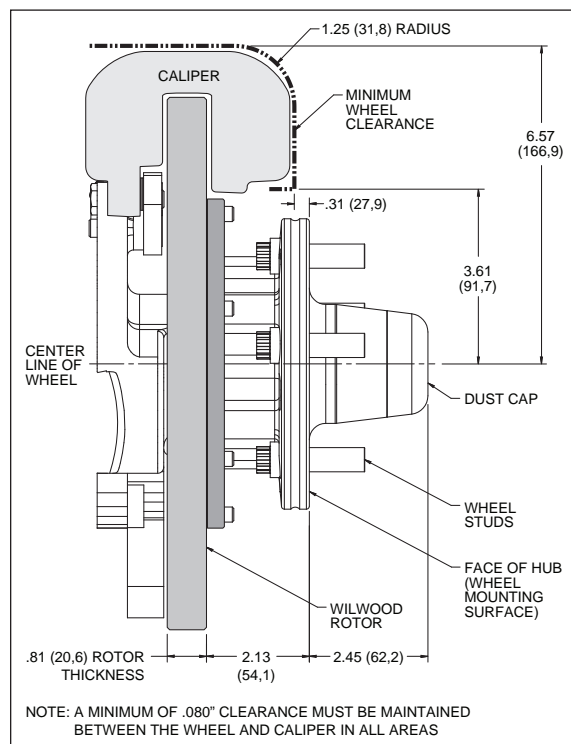

Figure 3. Wheel Clearance Diagram
- Review the Wheel Clearance Diagram (Figure 3, page 5) to verify that there is adequate clearance with the wheels you will be using with the installation.
- Verify wheel clearance utilizing Figure 3.
- **WARNING:** *The wheel contact surfaces must seat completely on the face of the hub.* If any contact surfaces overhang the outside diameter of the hub face, a 6.60" diameter x .20" thick steel spacer (item 21, Wilwood P/N 300-11961) **MUST** be used between the wheel and the hub.